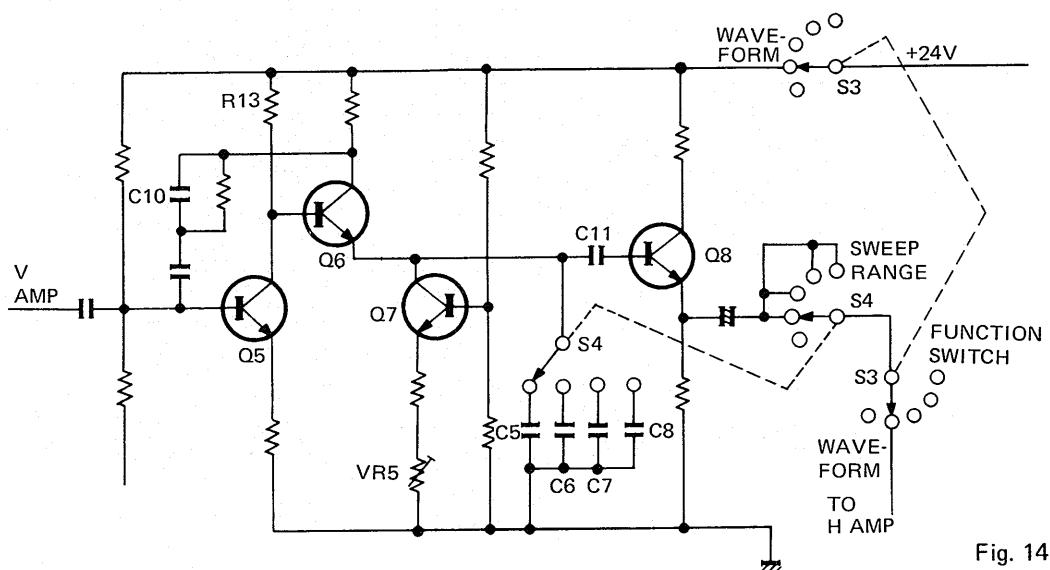

Fig. 14
5.6 SWEEP TIME GENERATOR (Fig. 14)
When the FUNCTION switch is at WAVEFORM and the SWEEP RANGE selector at any position except AF SWEEP, a plus voltage of 24V is applied to Q6 in Fig. 14.